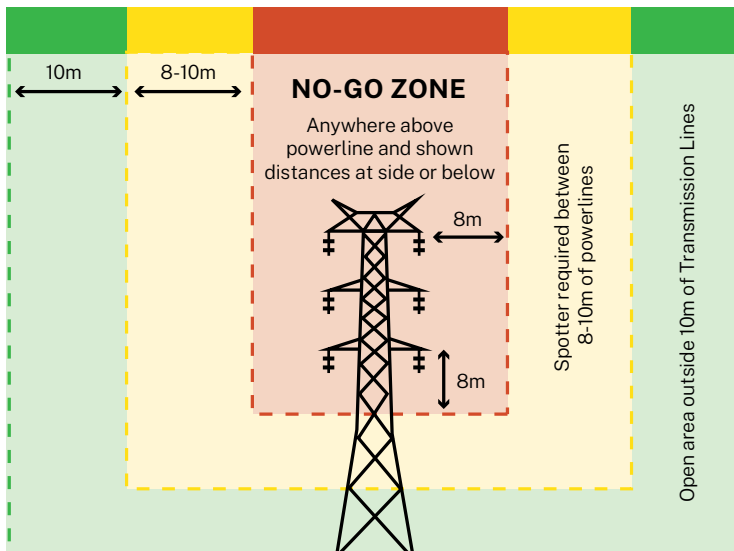

Figure 12 No-go zones and spotter distances for transmission lines
- Remain at least eight metres beside and below transmission lines (Figure 12).